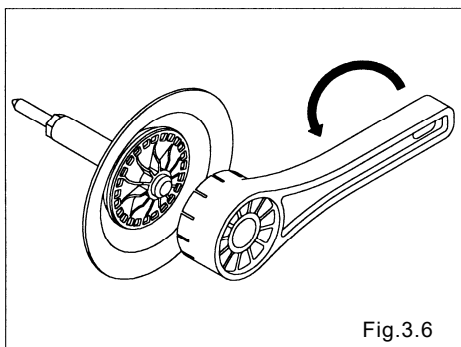

Fig.3.6
- Remove the center disk with supana (21 mm), and remove the diaphragm, center disk and O-ring (PC, PT) from the center rod. (AD-10P_ type) [Fig.3.6]
- Remove the center disk with the attached tool (dedicated tool: part No.771244), and remove the diaphragm, center disk and O-ring (_T type) from the center rod. (AD-25P_, AD-25V_ type) [Fig.3.6]
- Remove the center disk with the PP wrench (dedicated tool: part No.771868), and remove the diaphragm, center disk and O-ring (_T type) from the center rod. (AD-40P_, AD-50P_ and AD-50V_ types) [Fig.3.6]